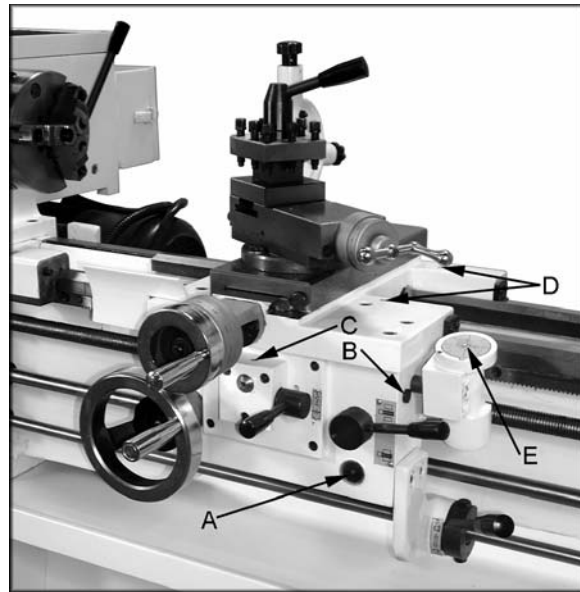

Figure 8
5. **Apron** - Oil must be up to indicator mark in oil sight glass (A, Fig. 8). Top off with Mobil DTE® Oil Heavy Medium. Fill by removing oil plug (B, Fig. 8). After the first three months of operation, drain oil completely (drain is on the bottom of the apron) and refill with Mobil DTE® Oil Heavy Medium, at a level equivalent to the indicator line. Then, change oil annually.
6. **Feed Selector** - Lubricate ball oiler (C, Fig. 8) once daily with Mobil DTE® Oil Heavy Medium.
7. **Carriage** - Lubricate two ball oilers (D, Fig. 8) once daily with Mobil DTE® Oil Heavy Medium.
8. **Thread Dial Indicator** - Lubricate ball oiler (E, Fig. 8) once daily with Mobil DTE® Oil Heavy Medium.